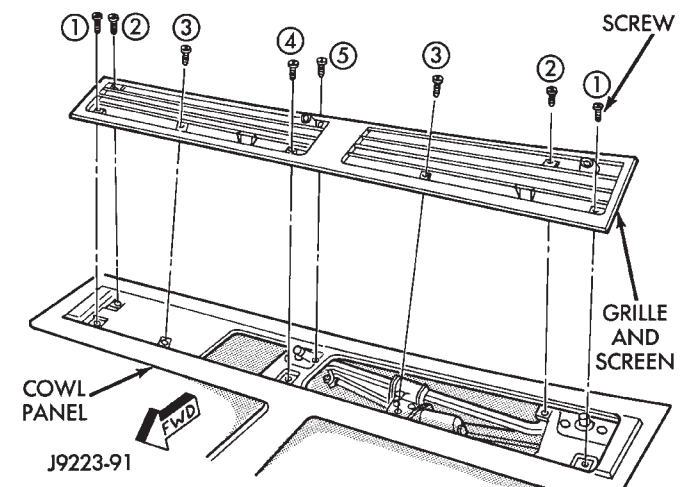

Fig. 12 Cowl Grille Screw Tightening Sequence
- (1) Position the cowl grille and screen on the cowl.
- (2) Install the windshield washer tubes on the nozzles.
- (3) Install the cowl screen and grille screws with new sealer. Tighten in sequence (Fig. 12).